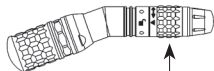

Figure 5
1. Rotate attachment lock sleeve to align arrow with unlock symbol (Figure 5).